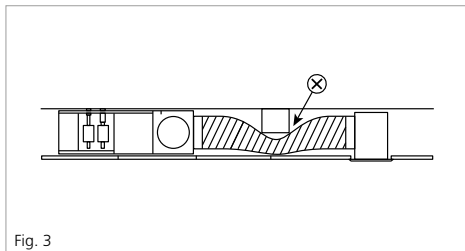

Fig. 3
- Do not squash the ducts so that they can pass easily under or around obstructions that appear to be affecting their natural course. See Figure 3.